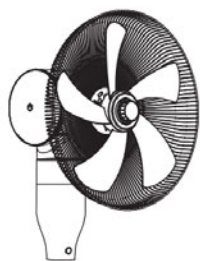

Fig. 7
5. Remove the locking screw from the lock on the connecting frame and release the clamp. Connect the front and rear grille using the frame. Snap the clamp so that the tabs fit between the grille wires and secure it with the included screw (see figures 7 and 8).